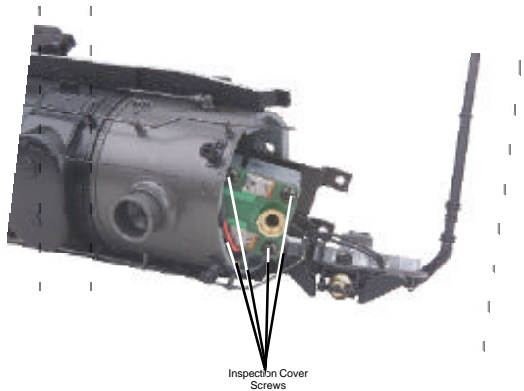

Figure 12
2. Remove the three screws securing the smoke unit inside the shell as seen in Fig. 12.
4. Once the unit is freed, remove the inspection cover (Fig. 12). Inspect the wick; if it is darkly discolored and hard, it should be replaced.